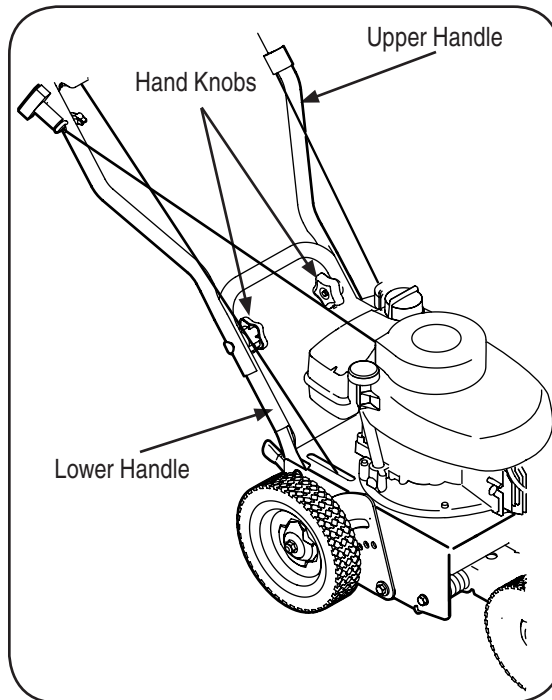

Figure 2
3. Tighten the hand knobs, which are located on both the left and right sides of the handle. See Figure 2.